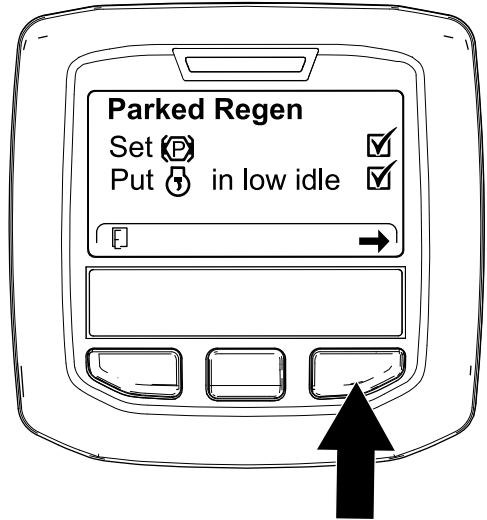

Figure 61
- At the DPF checklist screen, verify that the parking brake is engaged and that the engine speed is set to low idle (Figure 61).